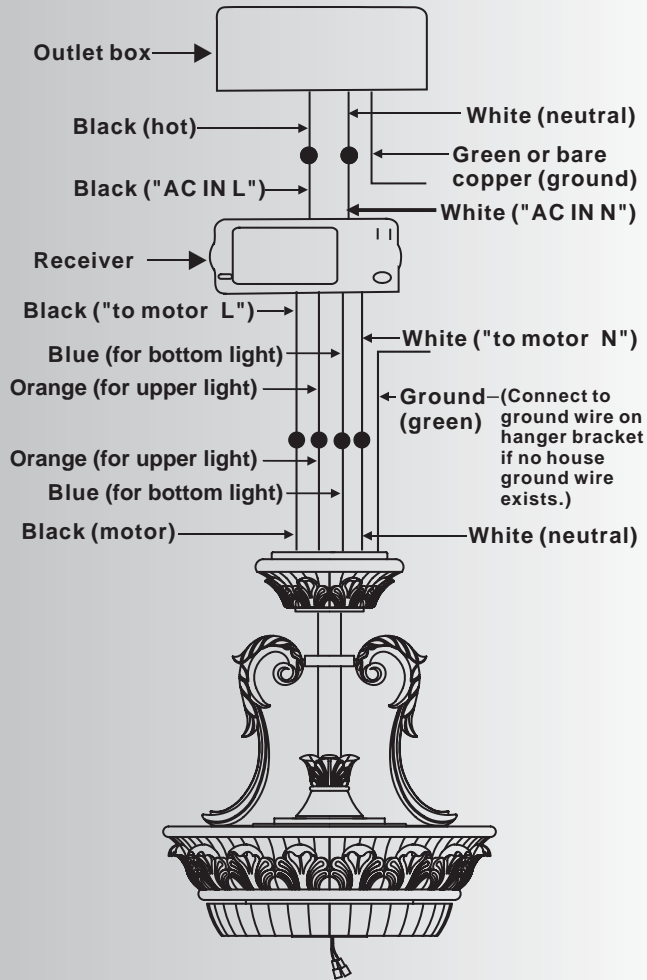

Fig. 16
Step 2. (Fig. 16) Motor to receiver electrical connections: Connect the black wire from the fan to black wire marked "TO MOTOR L". Connect the white wire from the fan to the white wire marked "TO MOTOR N" from the receiver. Connect the blue wire from the fan to the blue wire marked "For bottom Light" from the receiver. Connect the orange wire from fan to the orange wire from receiver marked "For Upper Light". Secure wire connections with the plastic wire nuts provided.
Step 3. (Fig. 16) Receiver to House Supply Wires Electrical Connections: Connect the black (hot) wire from the ceiling to the black wire marked "AC in L" from the receiver. Connect the white (neutral) wire from the ceiling to the white wire marked "AC in N" from the Receiver. Secure the wire connections with the plastic wire nuts provided.
Step 4. (Fig. 16) If your outlet box has a ground wire (green or bare copper) connect it to the fan ground wires; otherwise connect the hanging bracket ground wire to the mounting bracket. Secure the wire connection with a plastic nut provided. After connecting the wires, spread them apart so that the green and white wires are on one side of the outlet box and black and blue wires are on the other side. Carefully tuck the wire connections up into the outlet box.